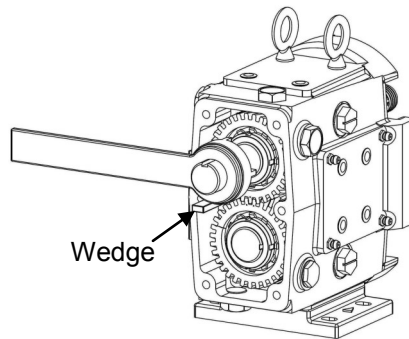

**Figure 42: Gear Case Disassembly (Gear Case Cover)**
1) Remove the pump head as described on page 16 (Pump Disassembly). Remove the bottom oil plug and drain the oil from the gear case (remove oil fill plug for faster drain). Remove the six hex head cap screws and washers from the gear case cover and slide the cover off the drive shaft (Figure 42). If the cover is stuck, use a soft mallet to tap around the edges until it breaks free. Using a straight edge remove the liquid gasket used to seal the cover to the gear case. Remove and discard the oil seal from the cover using an arbor press.